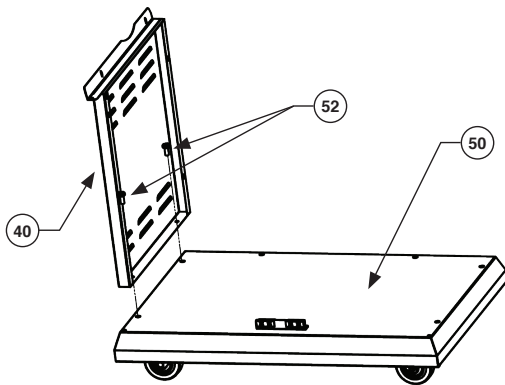

FIG 1
1. Secure Left Plate (40) on the Platform (50) with  $\frac{1}{4}$ -20\*  $\frac{1}{2}$  Bolt (52). As shown in FIG 1.